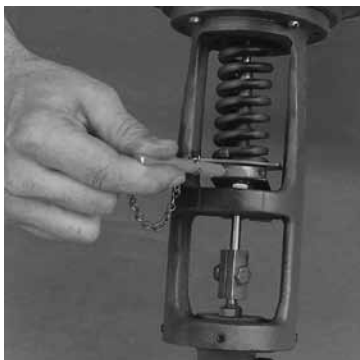

Figure 37
**Adjustment -** To increase the oil temperature, increase the spring tension by turning the knurled nut at the base of the spring. To decrease the oil temperature, decrease the spring tension by turning the knurled nut at the base of the spring (see Figure 37).